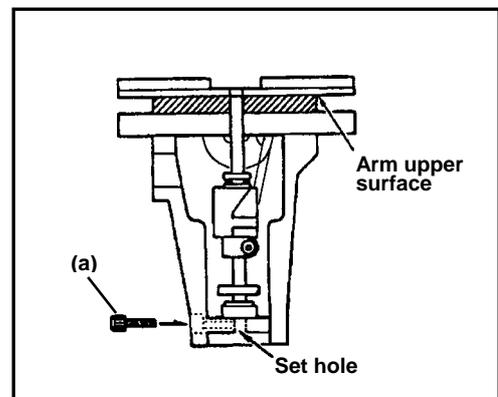

FIG.2
- (9) Install the change cover and the relay card cover with two setting screws. (Refer to Fig.2 of removal)
- (10) Install the tension base set, upper cover,